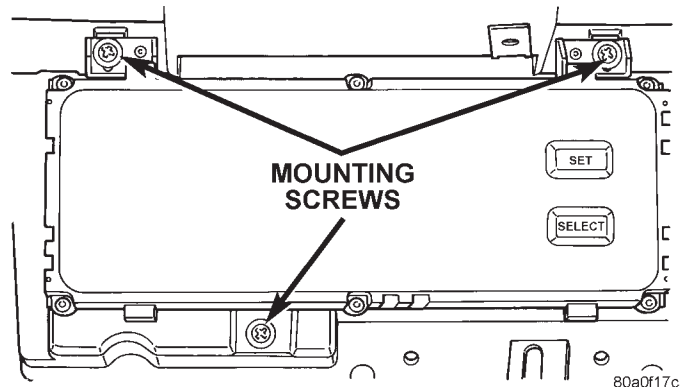

Fig. 12 Graphic Display Module and Vehicle Information Center Remove/Install
(1) Remove the glove box module as described in this group.
(2) Remove the three screws that secure the Graphic Display Module (GDM) or Vehicle Information Center (VIC) to the instrument panel armature (Fig. 12).